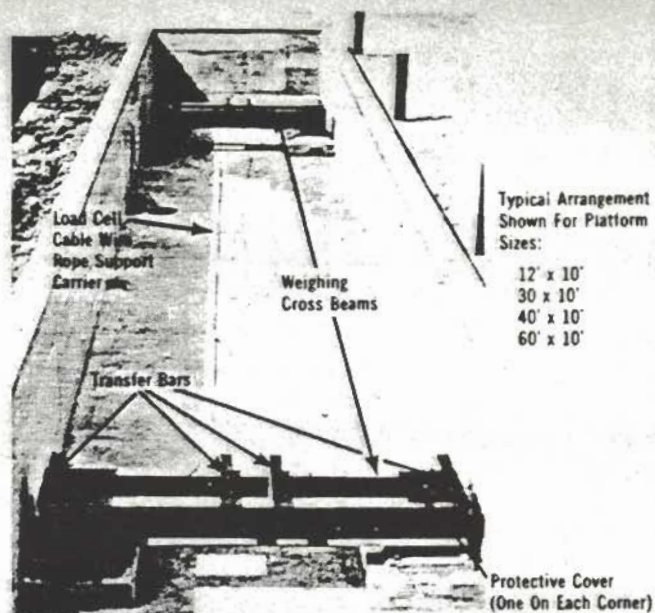

FIG. 5
1. Lower the Cross Beam Assemblies onto the pit pier support plates (Fig. 5).
6. Loosen the load and/or moment transfer bar retaining bolts approximately 1/4 inch. (Fig. 5)